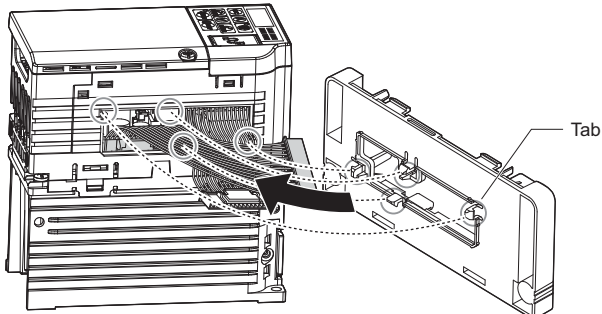

Figure 13 Connecting the Mounting Attachment (PS-V10S)
2. Align the four tabs on the mounting attachment with the inside edges of the cable access opening on the drive and gently press and click the mounting attachment into place as shown in Figure 13.